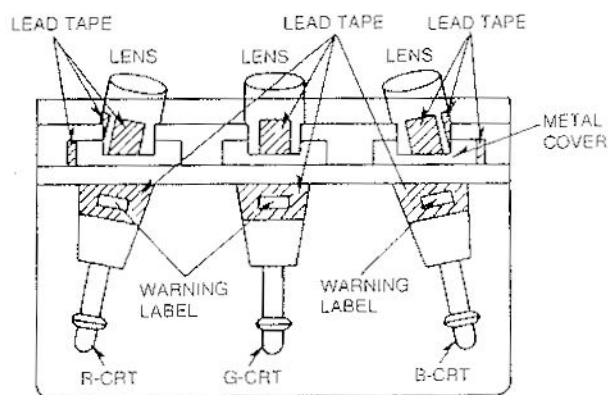

Fig. 5
- (1) Do not remove the lens.
- (2) Be sure to turn OFF the power when the lens must be removed and when you could be exposed to X-rays during cleaning and other routine servicing.
- (3) Do not remove the lens to check the projection tube for operation by watching it directly.
- (4) Do not remove the LEAD TAPE on the CRTs. (Fig. 5)
- (5) Do not remove the METAL COVER on the CRTs. (Fig. 5)
- (6) Do not remove the LEAD TAPE LENSES. (Fig. 5)